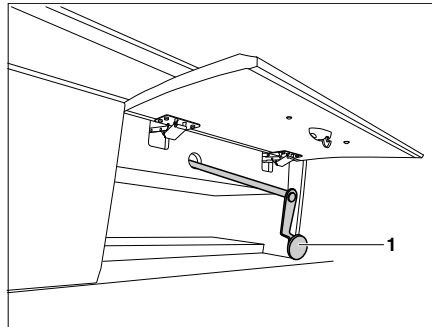

Fig. 164 Emergency operation for the electrical pull-down bed
- ▶ In the case of a power failure the electrical pull-down bed can also be moved with an emergency crank (Fig. 164). This is located behind a storage compartment flap.